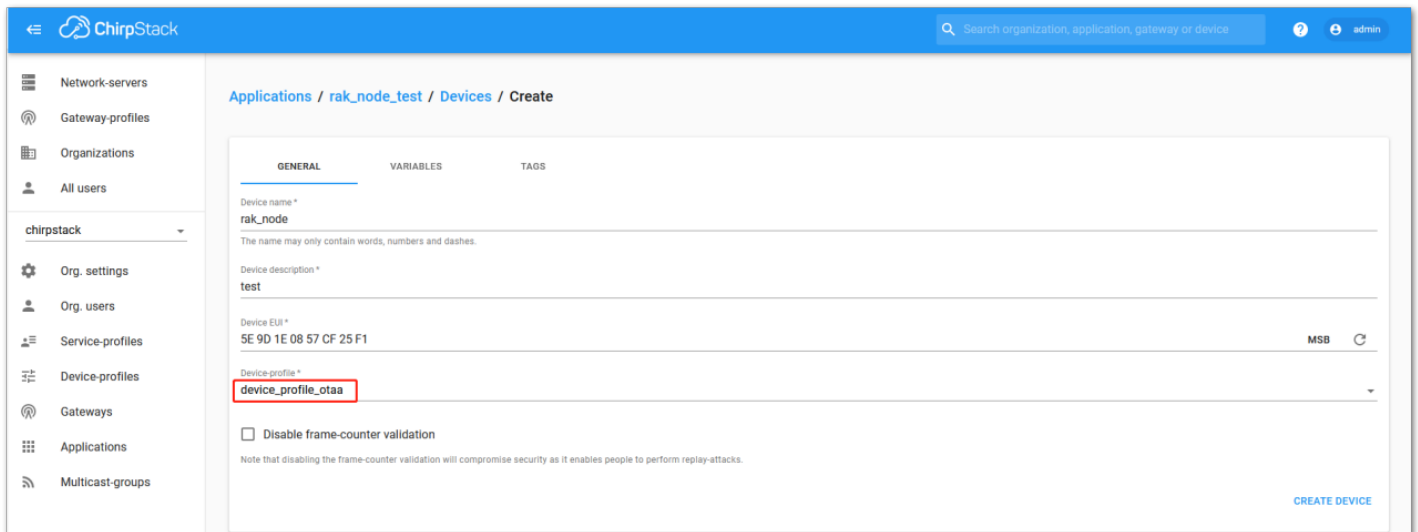

Figure 214: Chirpstack OTAA Activation
1. If you have selected **DeviceProfile_OTAA**, as shown in **Figure 214**, then after the device is created, an Application Key must be also created for this device.